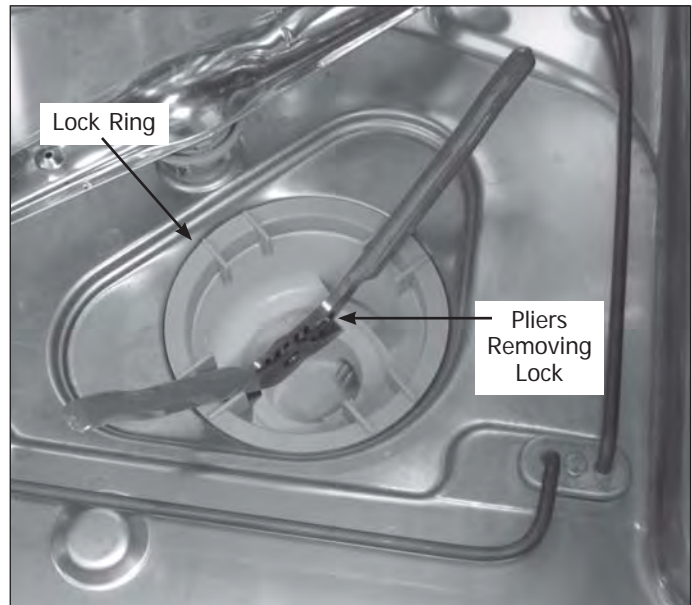

Figure 4-34.
5. Remove lock ring from inside sump by turning counter clockwise, a pair of slip jaw pliers may be used. Place into sump as shown to turn lockout of sump. (See Figure 4-34)